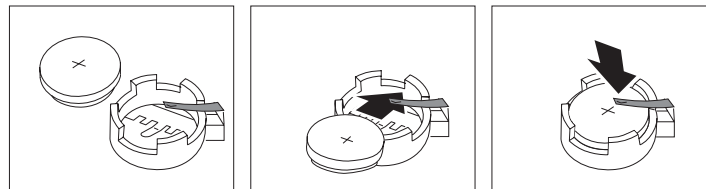

Figure 180. Replacing the SAN Volume Controller 2145-4F2 system board CMOS battery
2. As you slide it under the battery clip, press the battery down into the socket, as shown in Figure 180.